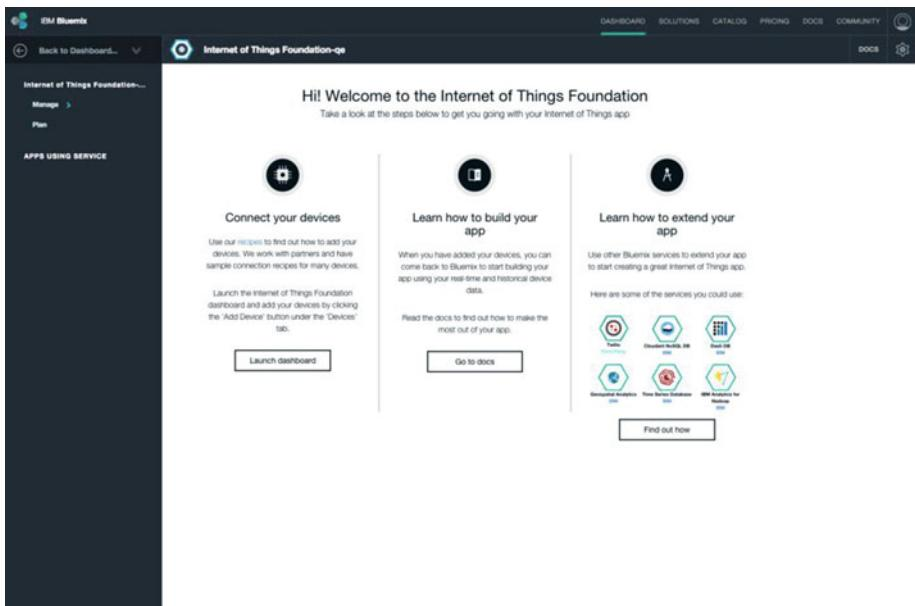

Figure 5-14. Connect your Devices to Bluemix
2. Next, click the Launch dashboard button under “Connect your devices” (Figure 5-14).